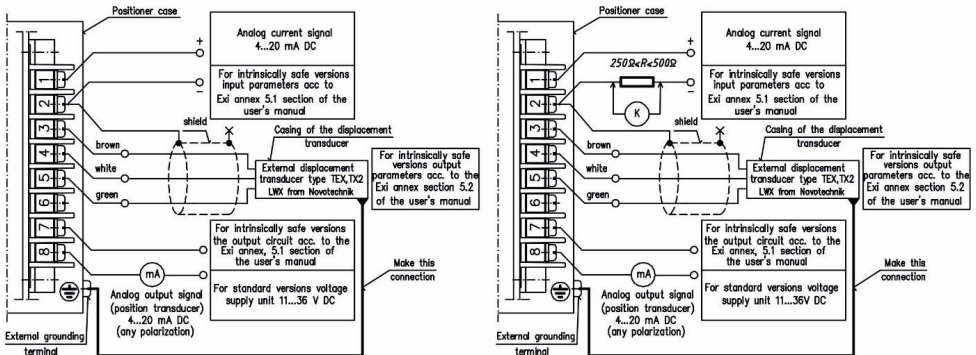

Fig. 21b Wiring position for executions with an external displacement transducer if:
- The only one terminal of the shield of the cable of the displacement transducer must be connected with terminal #2 of the positioner as in Figures 21b, c, d, e;
- If the second terminal of the shield of the cable is separated from potentiometer's case (Fig. 21b) then it is recommended to connect positioner's and potentiometer's cases by means of external wire.